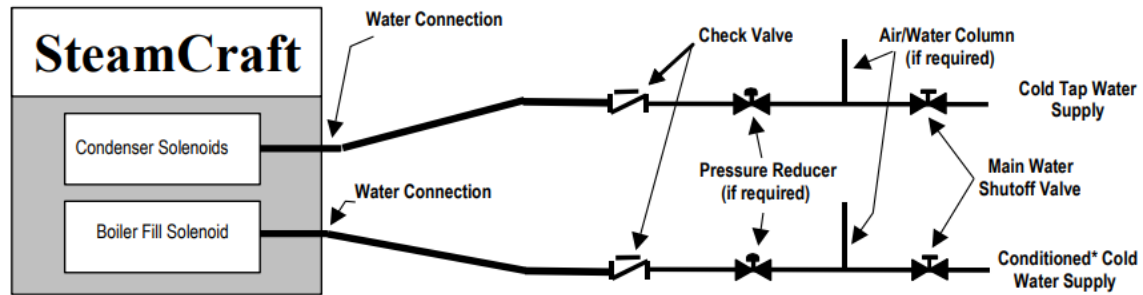

Figure 3-6 Cleveland Range Separate Water Supply Arrangement
- d. Install main manual shut off valve between the gas supply and the appliance. See Figure 3-6. This main manual shut off valve is called the "Main Manual Gas Valve."
- d) If the water supply fails to meet the requirements shown in the Warranty, then use the Separate Feed Water Supply Arrangement shown in Figure 3-6.